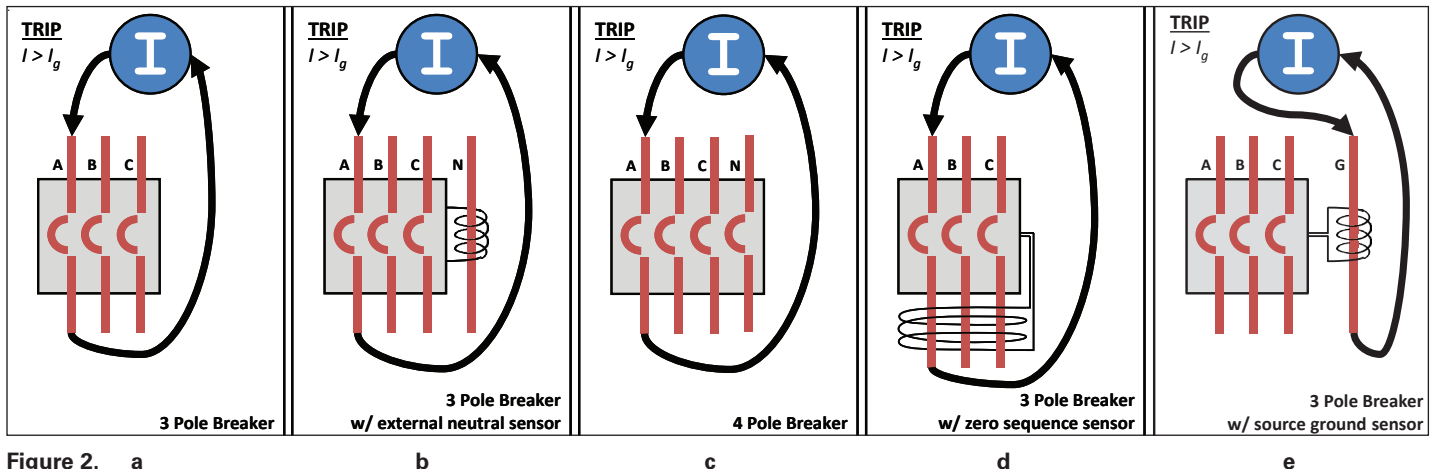

Figure 2. a
2. Apply a test current equal to 125% of the ground fault pick-up setting (I_g) through one pole of the circuit breaker or external sensors, as shown in figure 2.